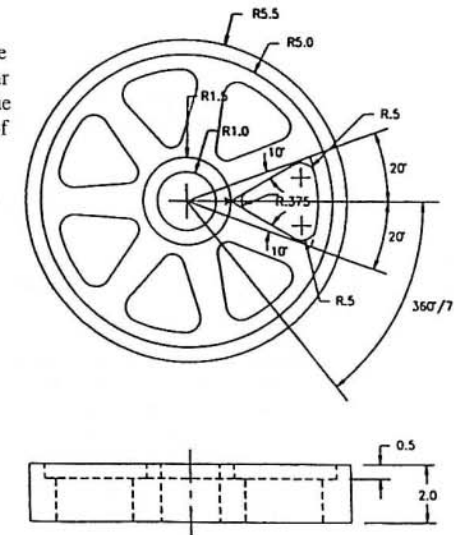

Figure 9.13
27. The pocket module is used twice to generate toolpaths for pocketing the larger circular pocket and pocketing one of the seven small pockets as shown in Figure 9.13.